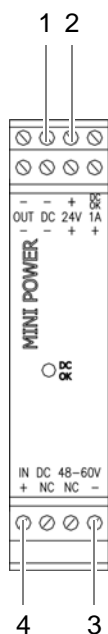

Figure 5.8 Connectors for the voltage supply cable on the top hat rail power supply unit
Figure 5.8 shows the terminals of the top hat rail power supply unit to which the power supply cables must be connected. The following table describes these indicators in detail.
1. Connect the voltage supply cable for the connection between the LRU and the top hat rail power supply unit with the corresponding terminals of the top hat rail power supply unit, refer to Figure 5.8 on page 100. Use a size 0.8 x 2.5 flat-bladed screwdriver for this purpose.
2. Connect the voltage supply cable for the connection between the top hat rail power supply unit and the voltage supply connector to the appropriate terminals of the top hat rail power supply unit, refer to Figure 5.8 on page 100. Use a size 0.8 x 2.5 flat-bladed screwdriver for this purpose.